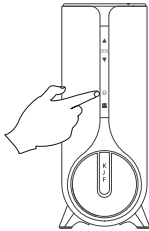

Figure 26
- (4) Hold the filter reset key on the system  for 5 seconds. When you hear the "beep" sound from the system, the filter has been successfully reset. The indicator lights of the front panel and faucet filter will turn blue (Figure 26).